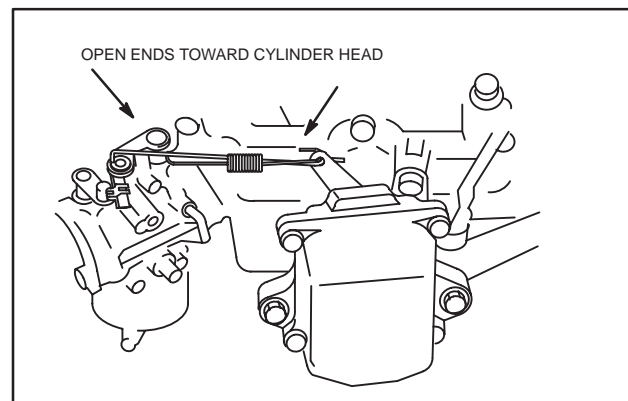

Fig. 31 – Install Actuator
1. Assemble governor link spring and link to actuator lever as shown, Fig. 31.